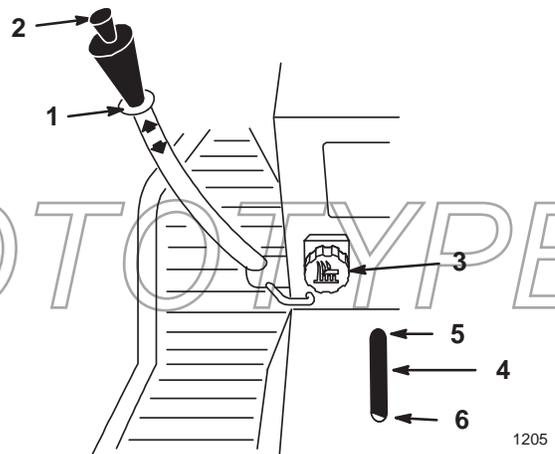

Figure 27
The attachment lift lever (on some models) (Fig. 27) is used to manually raise and lower attachments.
The Dial-A-Height control (Fig. 27) is used to limit the downward travel of the attachment. The Dial-A-Height knob is rotated to change the location of this stop, up or down.
2. Rotate the Dial-A-Height knob (Fig. 27) to change the stop location. Turn it clockwise to raise and counterclockwise to lower the height of the attachment.
The Dial-A-Height indicator (Fig. 27) will show the change, high to low, in attachment lift height as an adjustment is made.